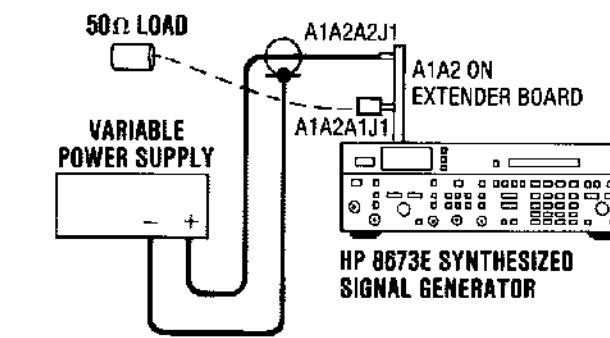

Figure 8-88. Integrator Troubleshooting Test Setup
1. Connect the test equipment as shown in Figure 8-88.
1. If it has not already been done, connect the test equipment as shown in Figure 8-88.